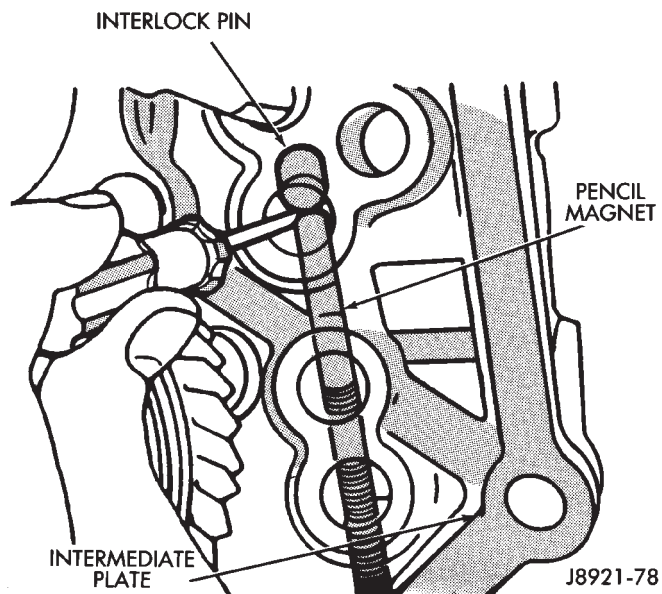

Fig. 78 Installing First Interlock Pin
(6) Insert first interlock pin in intermediate plate (Fig. 78). Use pencil magnet and screwdriver to install pin.